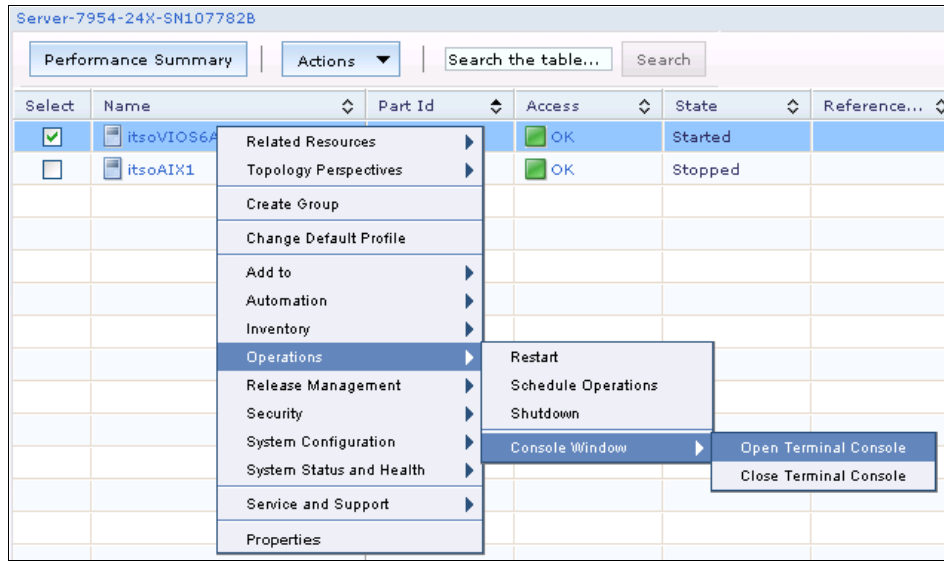

Figure 7-57 Opening a virtual terminal console on a virtual server from the FSM
1. Click the wanted server under Hosts in the navigation area. Right-click the virtual server in the work area table. Select **Operations** → **Console Window** → **Open Terminal Console**, as shown in Figure 7-57.